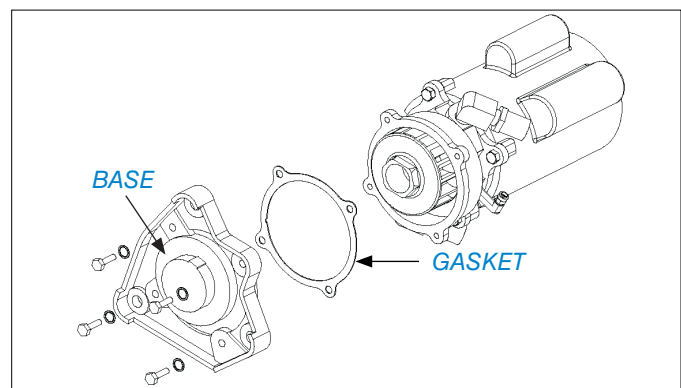

FIGURE 17. REINSTALL BASE AND GASKET
6. Install the base with the gasket by aligning the intake and discharge ports, then tighten the bolts. **DO NOT** overtighten (FIGURE 17).